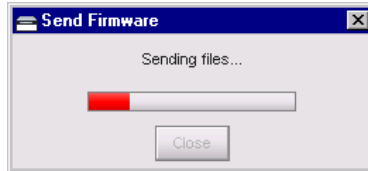

Figure 4-68 Send Firmware Dialog Box
7. Click *Yes* to download the firmware version. The *Send Firmware* dialog box displays (Figure 4-68).